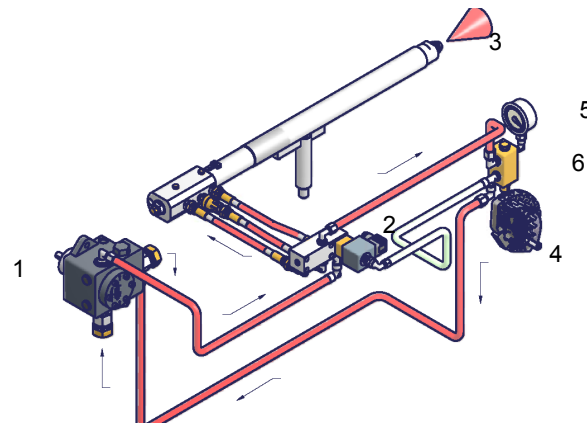

Fig. 20 - High flame
**Example:** as for over 100kg/h nozzles, the 80% of the nozzle flow rate can be obtained with a return pressure at about 18bar (see Fig. 20).